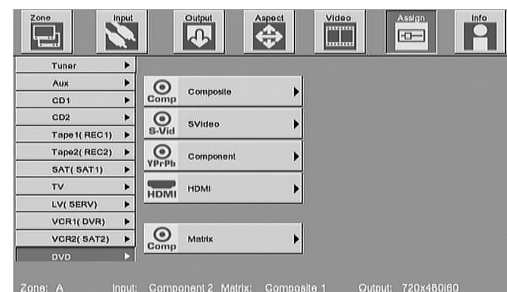

Figure 5
4. Using the ▼DOWN Push-button select DVD. Refer to figure 5.